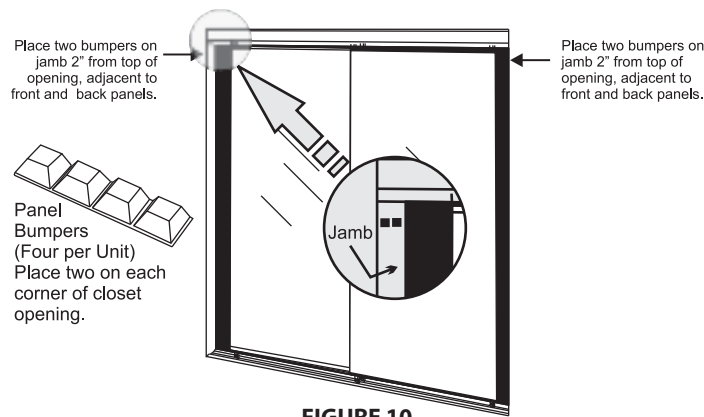

FIGURE 10
Doors are shipped with four (4) panel bumpers to provide a cushion between the door panel and jamb for maximum quiet operation. Install: Detach bumpers from strip and attach on jamb where the edge of mirror panel(s) and jamb(s) meet. Attach two (2) bumpers in the TOP CORNERS of the opening. Bumpers should be about 2" from the top of the opening. This will accommodate the full bypass function of the panels. (Fig. 10)